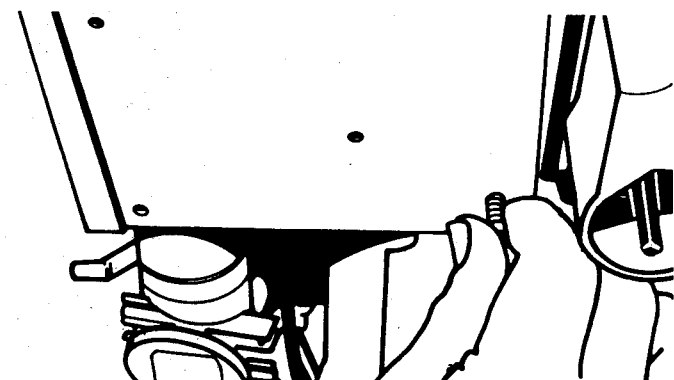

FIGURE 63
3. Remove screw at rear of Carburetor Cover as shown in Figure 63.